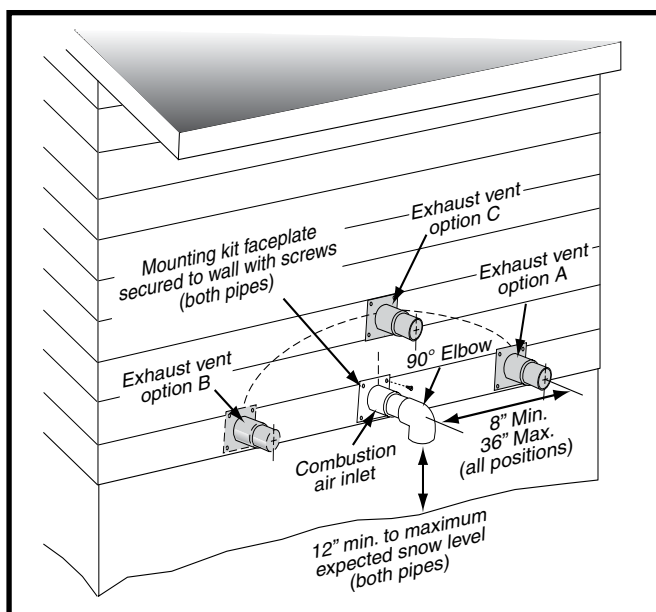
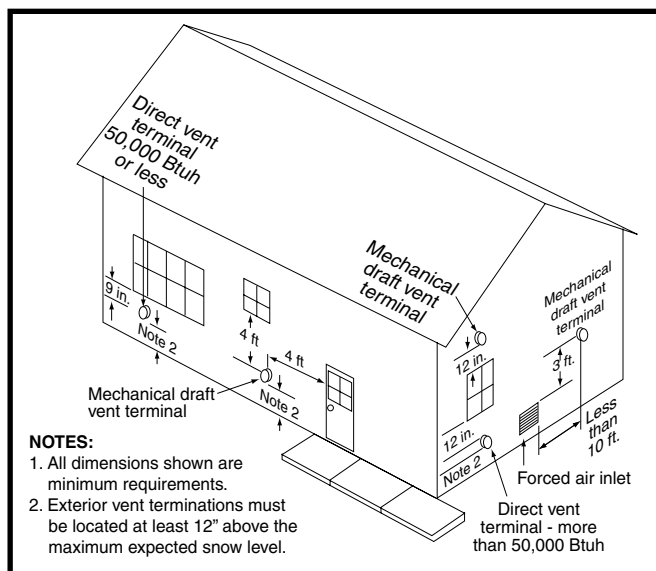
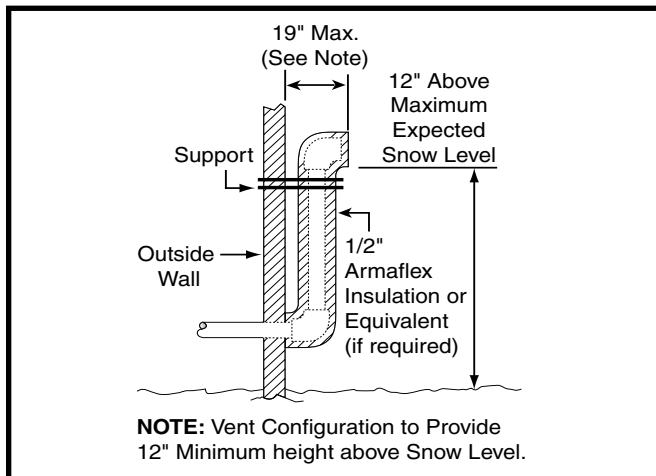
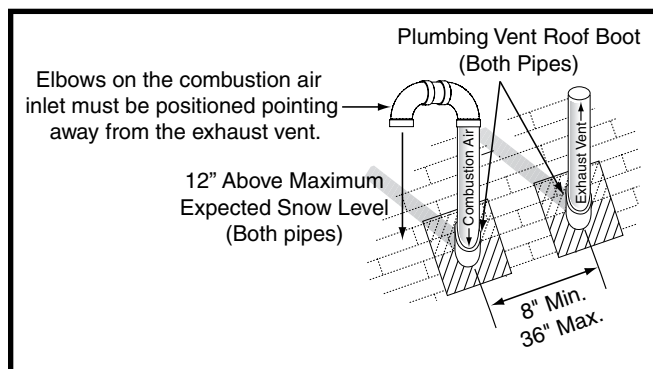

Figure 1. Inlet & Exhaust Pipe Clearances
Figure 2. Vent Locations
Figure 3. Alternate Horizontal Vent Installation
Figure 4. Vertical Vent Termination
- The combustion air intake and the vent exhaust must be located in the same atmospheric pressure zone. This means both pipes must exit the building through the same portion of exterior wall or roof as shown in Figure 1, Figure 2, Figure 4, and Figure 29 \(page 38\).
- Vent and combustion air intake terminations shall be installed as shown in Figure 1, Figure 2, Figure 3, and Figure 4 in accordance with these instructions:
- All minimum clearances (Figure 2 \(page 9\)) must be maintained to protect building materials from degradation by flue gases.
- When the vent pipe must exit an exterior wall close to the grade or expected snow level where it is not possible to obtain clearances shown in Figure 1, a riser may be provided as shown in Figure 3. Insulation is required to prevent freezing of this section of pipe. See Table 3, \(page 10\) for vent freezing protection.
Termination spacing requirements from the roof and from each other are shown in Figure 4. The roof penetration must be properly flashed and waterproofed with a plumbing roof boot or equivalent flashing. Vent and combustion air piping may be installed in an existing chimney which is not in use provided that:
- The termination clearances shown in Figure 4 are maintained.